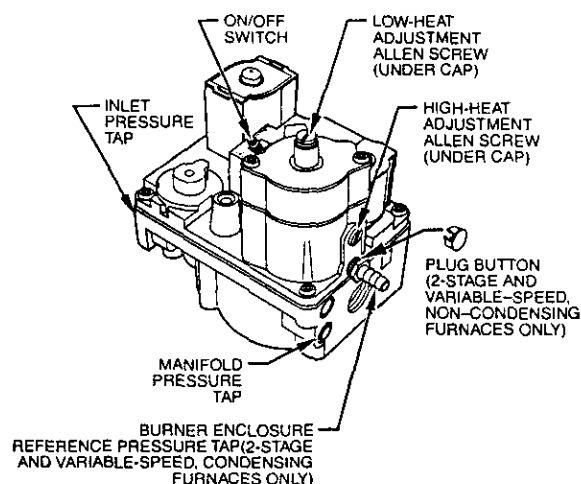

Fig. 15B - 2-Stage Gas Valve A01069
2. Remove caps that conceal adjustment screws for high-and low-heat stage gas valve regulators. (See Fig. 15B)
- a. Remove caps that conceal adjustment screws for gas-valve regulators. (See Fig. 15B)